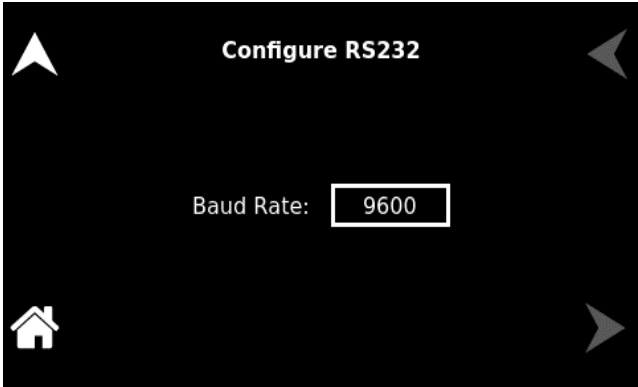
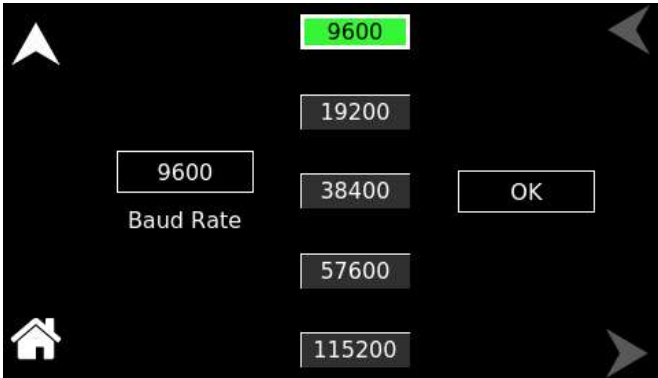

Figure 13-52. RS232 Screen -Configure
Figure 13-53. Baud Rate Selection
- b) **Configure RS232:** Configures the RS-232 Baud Rate, refer to Figure 13-52 and Figure 13-53. This setting must match those set for the communications port of the user external controller.